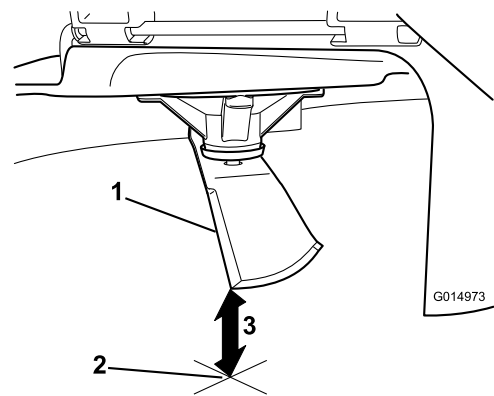

Figure 55
3. Measure from the tip of the blade to the flat surface (Figure 55).